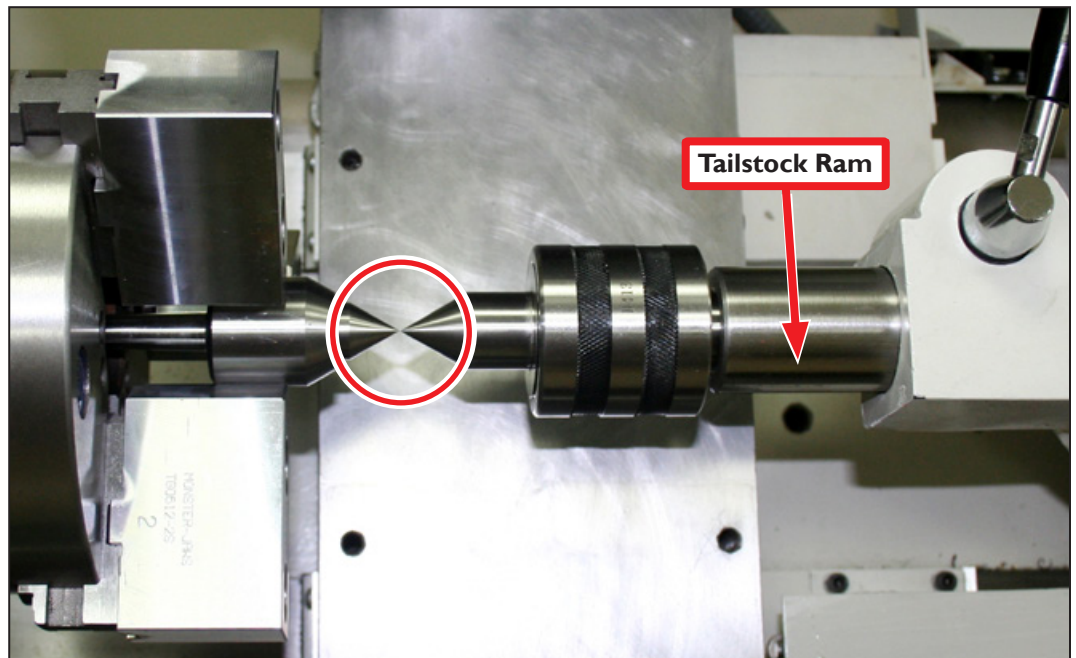

Figure 9
1. Insert a live center in both the spindle and tailstock ram; tighten snugly (see **Figure 9**). Another option would be to cut a tapered point on a piece of round stock.
2. Bring the points of the two close together as shown in **Figure 9**.